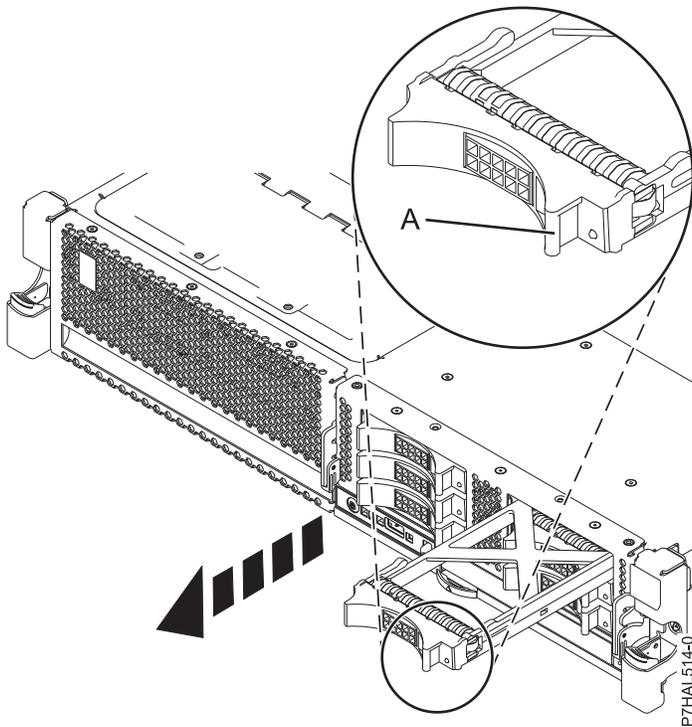

Figure 40. Removing a disk drive filler from the 8231-E2B, 8231-E1C, or 8231-E2C
3. Hold the filler handle **(A)** and pull out the disk drive filler from the slot, as shown in Figure 40 on page 90.